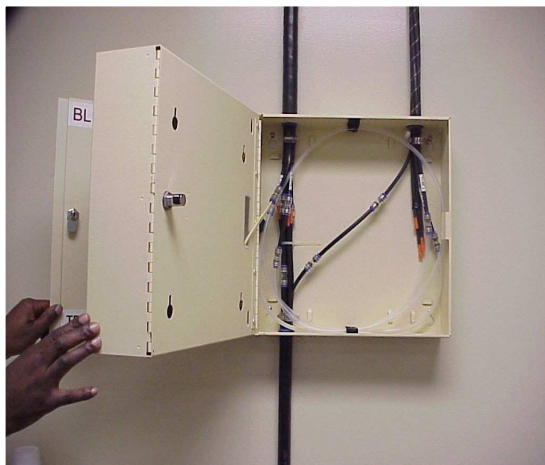

Figure 10
10.3 **Important.** Before installing TDU and FTU, verify sufficient clearance area exists to accommodate the wider door swing. **See Fig. 10.**